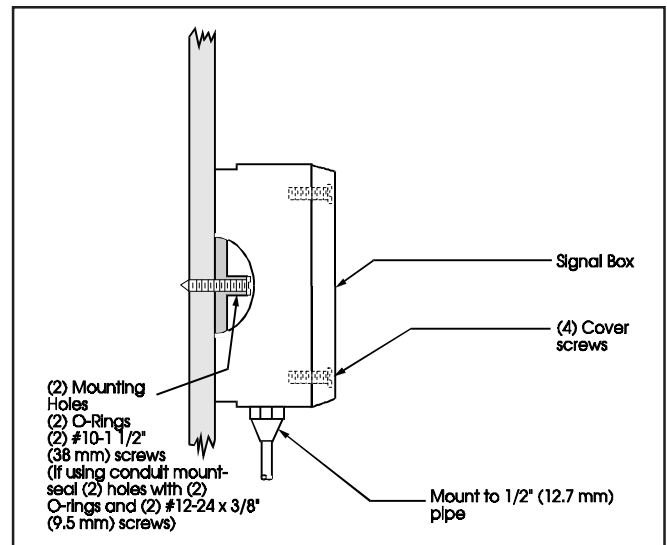

Figure 2. Remote Amplifier Mounting.
1. Mount Adaptatone (Figure 2).
- a. Remove (4) cover screws from the signal box and lift off cover.
- b. **Flat Surface Mounting.** Secure unit to mounting surface at the (2) mounting holes in rear of box with furnished O-rings and #10 X 1 1/2" (38 mm) screws (supplied). For mounting to dry wall or concrete surfaces, use furnished O-rings and suitable hardware (not supplied).
- c. **Rigid Pipe Mounting.** Seal the (2) mounting holes in rear of box with (2) furnished O-rings and #12 X 3/8" (9.5 mm) long screws.